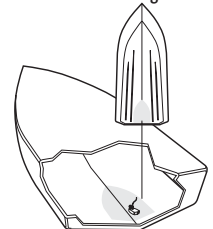

Figure 27
- As a general rule, the faster the boat can travel, the further aft and closer to the centerline of the hull the transducer has to be located in order to remain in contact with the water at high speeds (Figure 27).